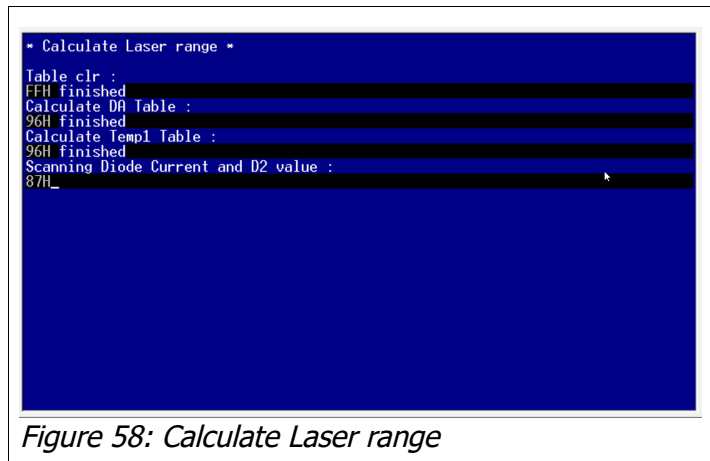

Figure 58: Calculate Laser range
- you will see the picture at Figure 58: Calculate Laser range